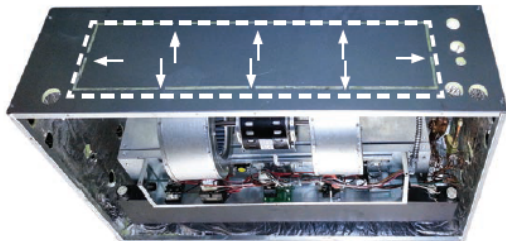

Fig 5.10
- 5.3.1. To connect return air ducting to the air handler, remove the knockout and cut the insulation on the rear side of the enclosure to install the ducting (Fig 5.10).